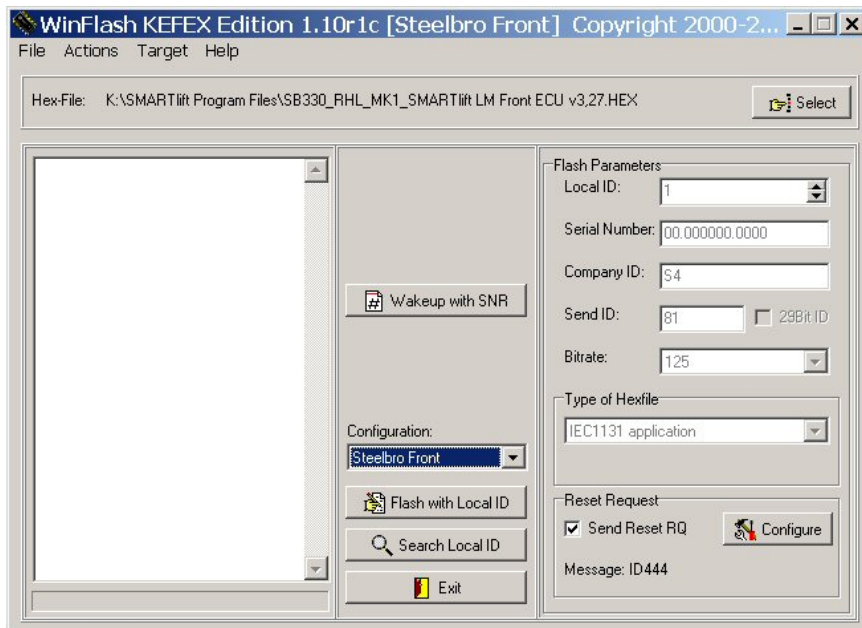

Figure 3
5. In the Configuration box select Steelbro Front. Press the Select button in the top right hand corner and choose the appropriate Front .hex file for the Sidelifter model. (as shown in Figure 3 Below).